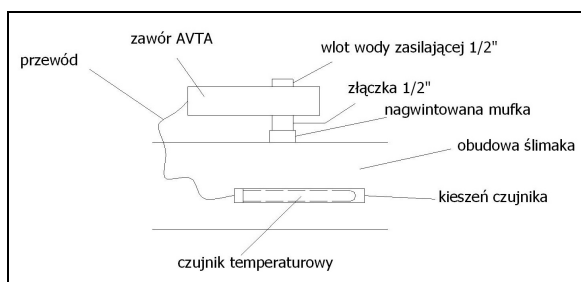

Fig .12 Connecting the fire protection valve AVTA
11. Installation of the sensor and fire valve AVTA (fig.12)